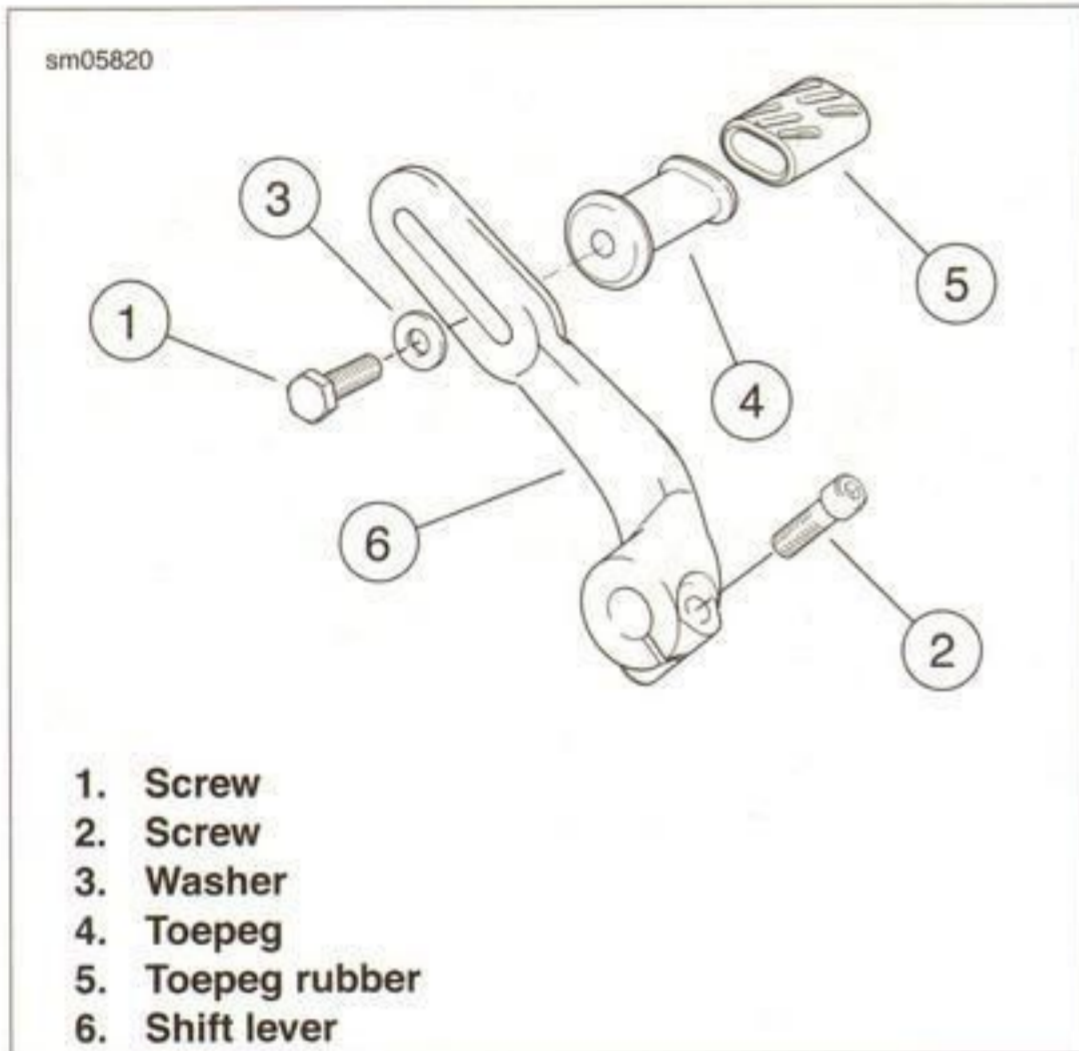

Figure 6-62. Gear Shift Lever
1. See Figure 6-62. Remove screw (2) from shift lever (6).
2. Remove screw (1) and washer (3) to remove toepeg (4).
3. To assemble shift lever, install screw (1) through washer, shift lever and toepeg. Tighten to 5.4-8.1 Nm (48-72 in-lbs).
5. Install screw (2) and tighten to 9.6-10.6 Nm (85-94 in-lbs).